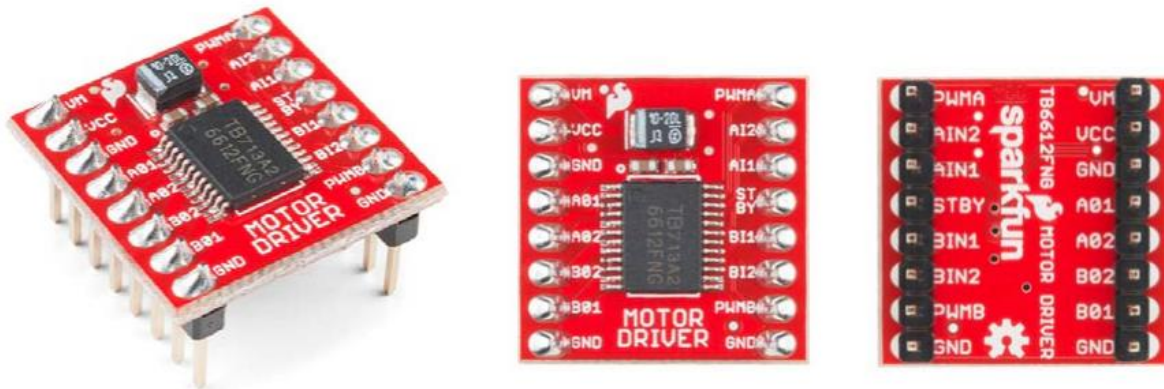
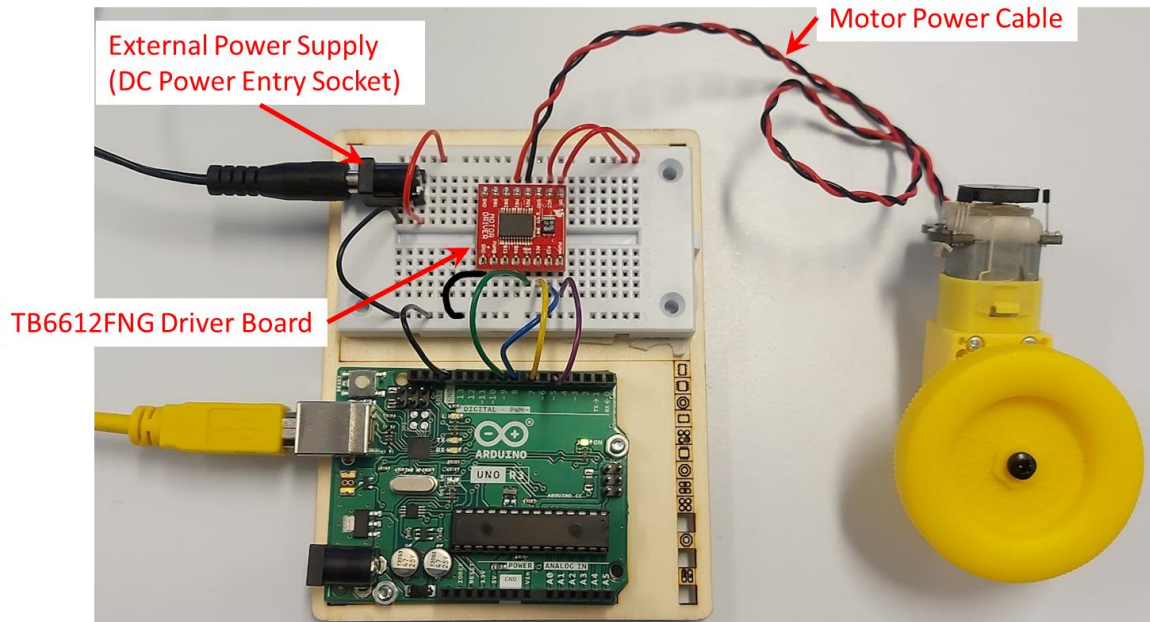
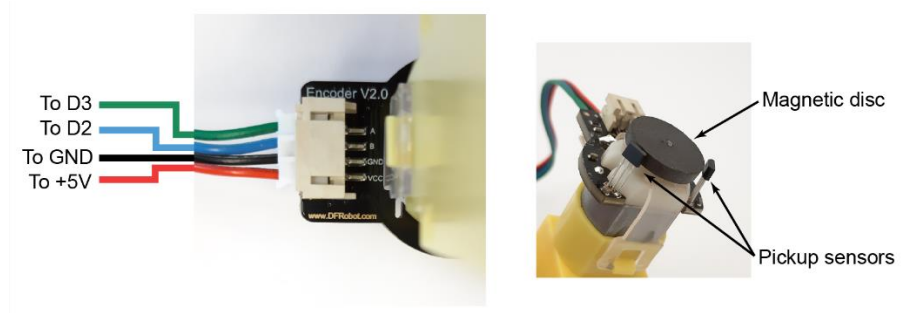
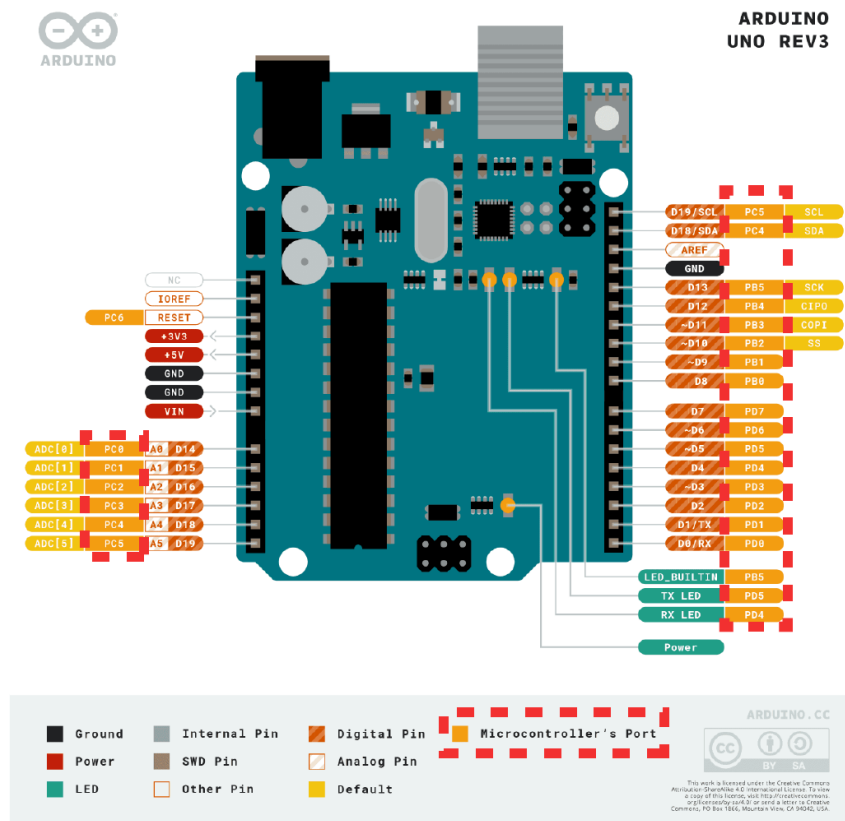

Figure 5. The TB6612FNG motor driver breakout board
Figure 6. Circuit for connecting the DC motor power connections to the TB6612FNG driver board and Arduino
Figure 7. Connections between the encoder and the Arduino and components of the encoder.
Figure 10. Pinout of the Arduino UNO board.
A DC motor cannot be powered directly from the pins of the Arduino board, because the current drawn by the DC motor is too large and could damage the Arduino by overloading the output pins. To overcome this problem, a power electronic driver circuit is required to interface the motor to the Arduino microcontroller board. During this exercise, you will be using a TB6612FNG motor driver breakout board, as shown in Figure 5, and an external power supply, to drive motor from control signals generated in the Arduino.
The TB6612FNG driver IC chip is a dual brushed DC motor driver chip, capable of delivering 1.2A of average current to two independent motors. The TB6612FNG breakout board, shown in Figure 5 is connected to the Arduino using the circuit shown in Figure 6, where:
- The Pin out for the external DC power entry socket can be found in the “Using the TB6612FNG breakout board” document. Ensure the GND connection is connected to the common GND/0V rail on the breadboard, and the +5V connected to the +5V rail, as shown in Figure 6.
2. Connect the circuit illustrated in Figure 6, and described above.
Starting from the circuit in the previous exercise, four additional connections are needed, as detailed in Figure 7.
With reference to Figure 7, the quadrature encoder consists of the black magnetic disc, connected to the shaft of the DC motor, the two magnetic pickup sensors and the additional circuitry to convert the output to square waves.
Referring back to the circuits in Figure 6 and Figure 7 and using Table 1. Counting method for encoder outputs. and the code in Figure 10 as a guide, write a script that can rotate the wheel connected to the DC motor according the following cycle:
A simple and efficient way of acquiring two or more encoders consists in using pin change interrupts. The pins on a microcontroller are grouped in ports. On typical Arduino boards each port consists of 8 pins. These can be found by looking at a pinout diagram for the board in use (see **Figure 10** for an example).
As visible in **Figure 10**, digital pins D0 to D7 are on the same port, PORT D. In the code, one can ask the microcontroller to monitor specific pins on a port and execute an interrupt service routine when one of these pins changes state. Within the interrupt service routine, one then needs to analyse which pin caused the execution of the interrupt and react accordingly.
Let's imagine 2 encoders are connected to an Arduino UNO on pins D3, D4, D5, and D6. None of these pins could be used with the `attachInterrupt()` function. As shown in Figure 10, all this pins are part of PORT D of the microcontroller. The first step is to activate pin change interrupts on PORT D and then mask all pins, but the one connected to the encoders' outputs. The masking operation tells the microcontroller which pins it needs to listen to. This operation is needed to avoid the interrupt being triggered by changes in pins that are not connected to the encoders.